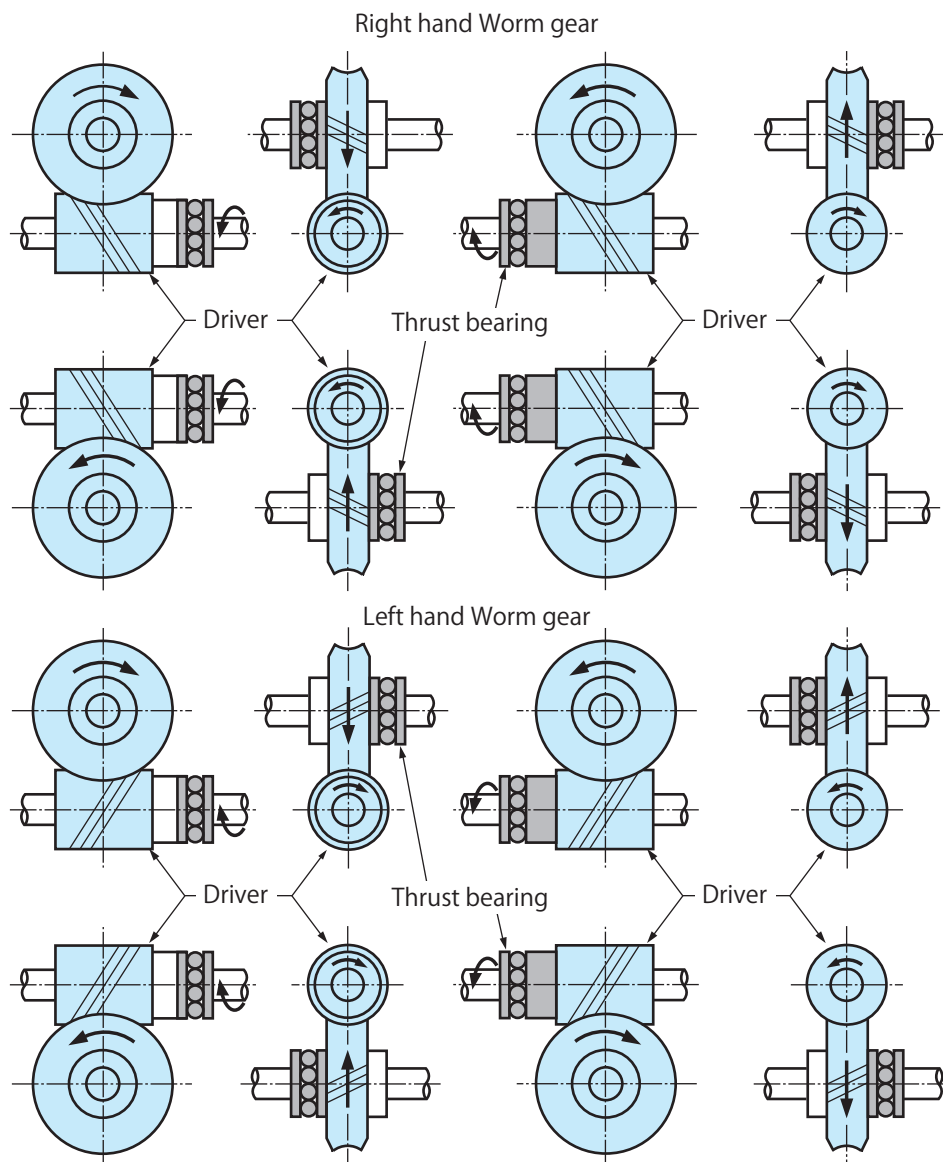

Fig. 6 Axial thrust load to Worm gear and location of bearings.
- ① To obtain ideal engagement of Worm gear and Worm wheel's shafts, provide right angle (90°) correctly.
- ② Lubricant oil is indispensable to Worm gear and Worm wheel during operation due to high friction between flanks of Worm gear and Worm wheel.
- ③ Engagement of the same number of thread and hand of thread are indispensable to Worm gear and Worm wheel. (Engage Worm gear and Worm wheel with both having right hand and one thread)
- ④ The design of the axes between Worm gear and Worm wheel should be firm and provide bearing as close as possible to Worm gear pair.
- ⑤ Provide the bearing that will completely support the Worm gear pair as the axial thrust increases during operation. Refer to Fig. 6 for axial thrust direction.